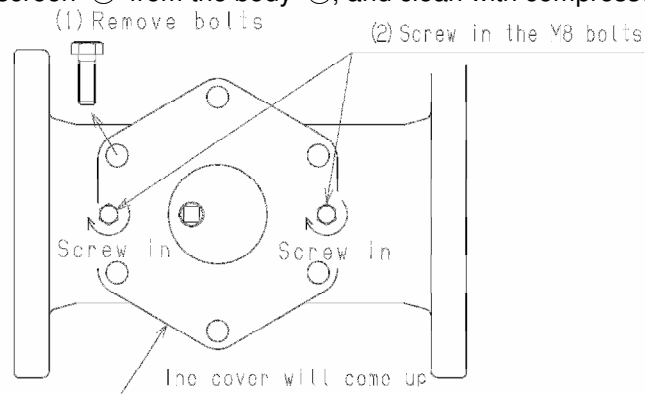

Fig.7 Removal of cover for Model SU-50·50H (Above diagram)
- (1) Remove bolts ⑦.
- (2) Remove cover ②. In case you cannot remove the cover, screw in M8 bolts in the two holes on the cover until the cover comes up. (See Fig. 7), and then remove the cover. Remove the M8 bolts after removing the cover.
- (3) Remove screen ④ from the body ①, and clean with compressed air and cleaning agents.